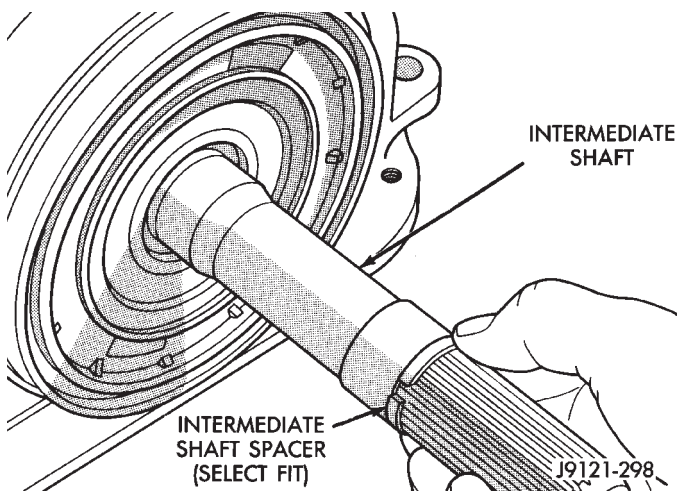

Fig. 195 Intermediate Shaft Spacer Location
- (2) Remove intermediate shaft spacer (Fig. 195). Retain spacer. It is a select fit part and may possibly be reused.